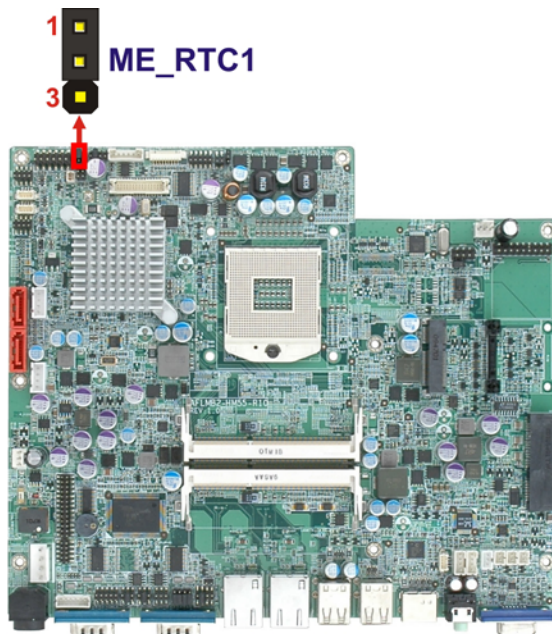

Figure 3-15: ME RTC Jumper Location
- Jumper Location:** See Figure 3-15
The ME RTC jumper location is shown in Figure 3-15.